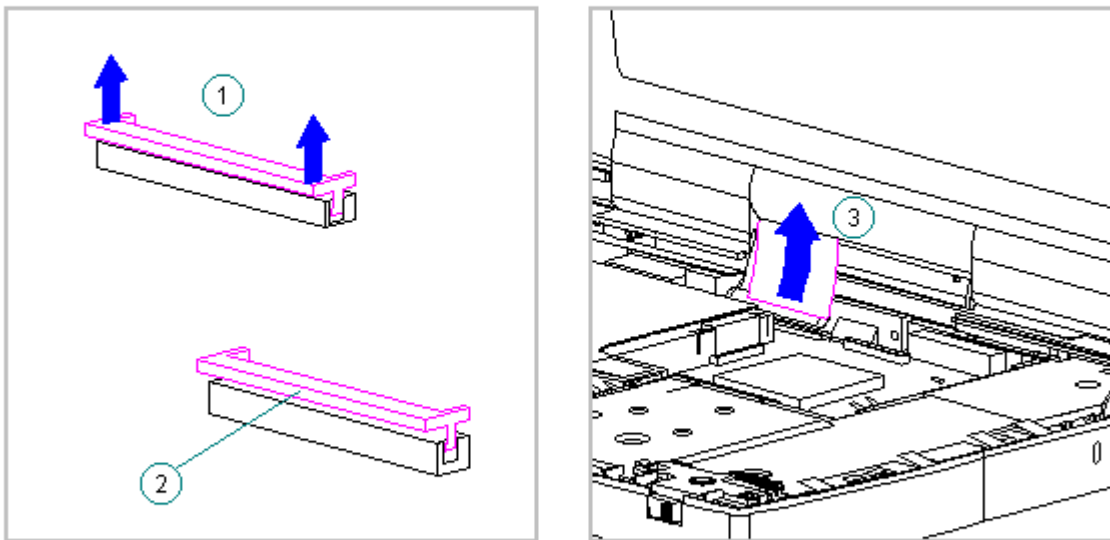

Figure 3-186. Disconnecting the Display Cable from the System Board (All Models)
6. Pull up both ends of the ZIF connector slide simultaneously [1], carefully opening the slide [2] (Figure 3-186).
7. Lift the display cable out of the connector slide [3], being careful not to pull or twist the cable (Figure 3-186).